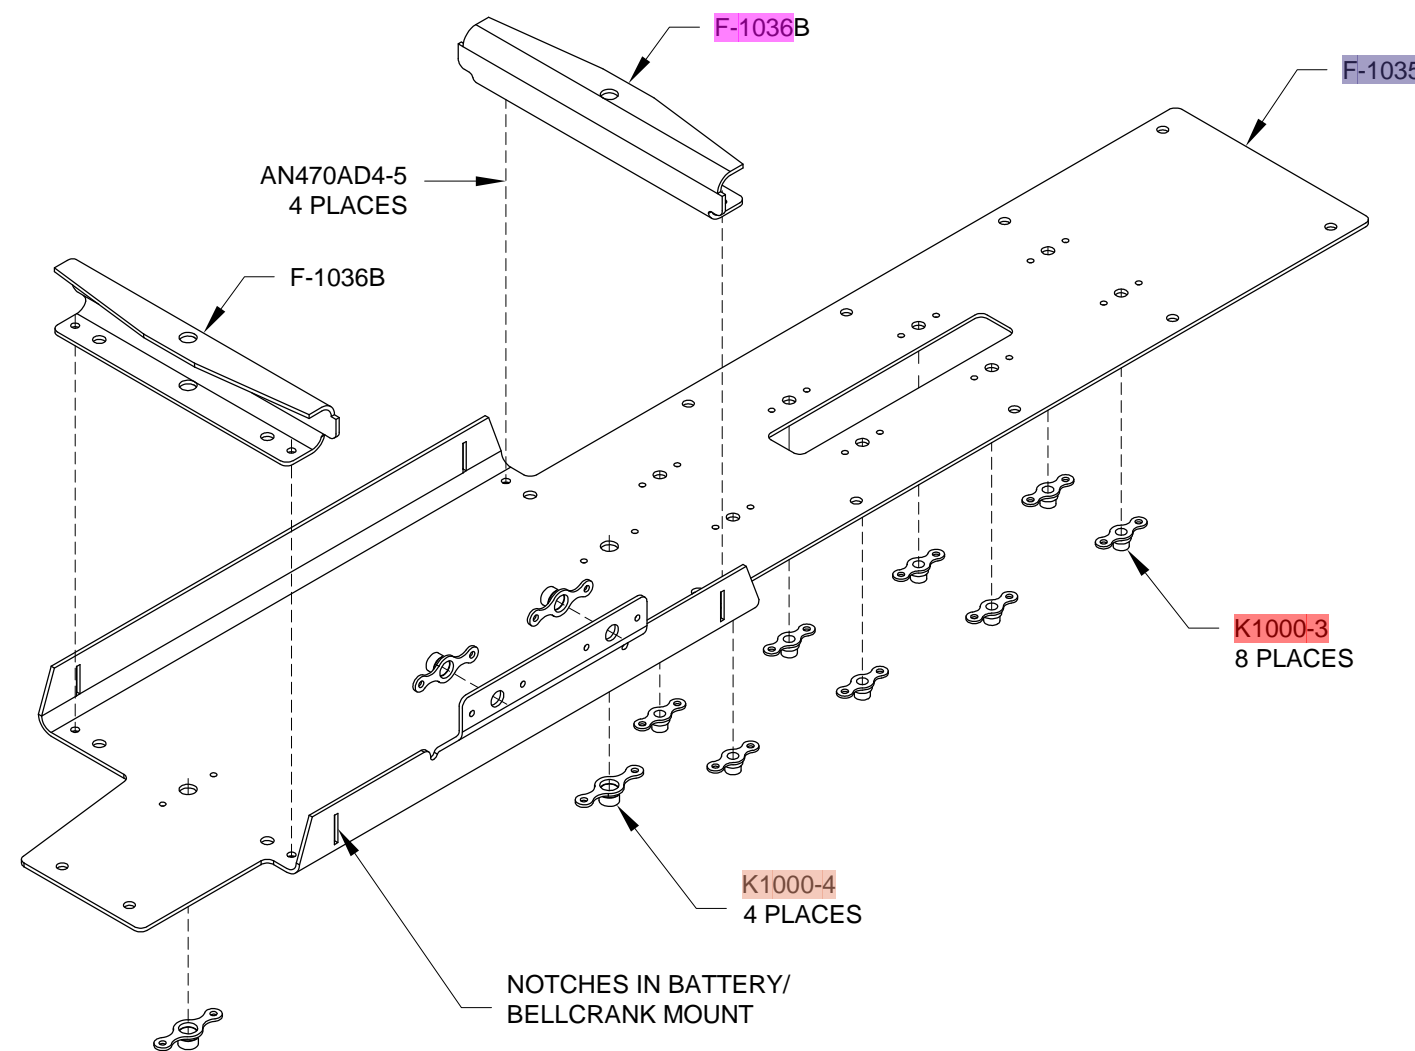

FIGURE 3: RIVETING THE BATTERY/ BELLCRANK MOUNT
Step 5: Rivet all the nutplates shown in Figure 3 using AN426AD3-4 flush rivets.
Step 6: Snap the tabs of the F-1036B Battery Channels into the notches of the F-1035 Battery/ Bellcrank Mount, then rivet the channels in place using the rivets called out in Figure 3.